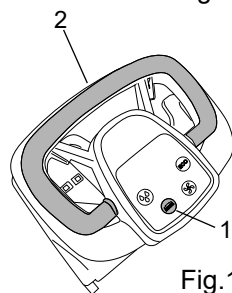

Fig.11
- Press the brush control button (fig. 11, ref. 1).
- Jog the brush control lever (fig. 11, ref. 2) repeatedly; this will enable the brush to engage automatically with the hub of the flange. If the operation is not successful, reposition the machine as before, then repeat the steps of aligning the brush and jogging the control lever.
- Press the brush control button (fig. 11, ref. 1) and hold for 3 seconds; the machine will activate the brush release mechanism automatically.